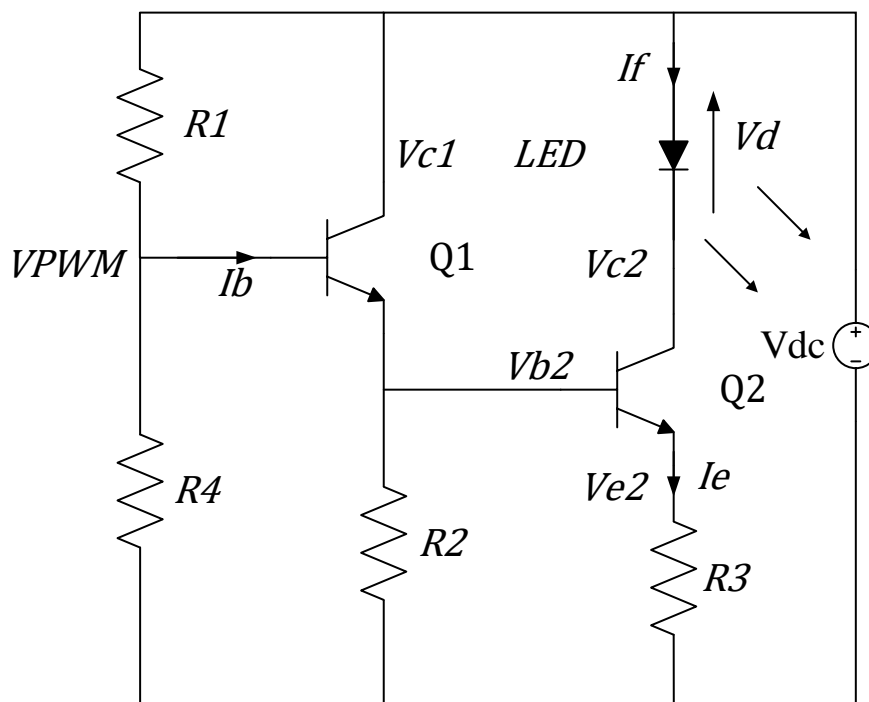

Figure 2: A standard structure of an ideal Darlington pair amplifier
An amplifier is required to drive the LED which is used to send the encoded message to the receiver. For this project, a Darlington pair amplifier is suggested. A basic structure of this amplifier is shown in Figure 2.
4.3.1. Using the measurement tools in LTSpice, measure the power dissipation of the transistors and resistors of the Darlington pair amplifier shown in Figure 2